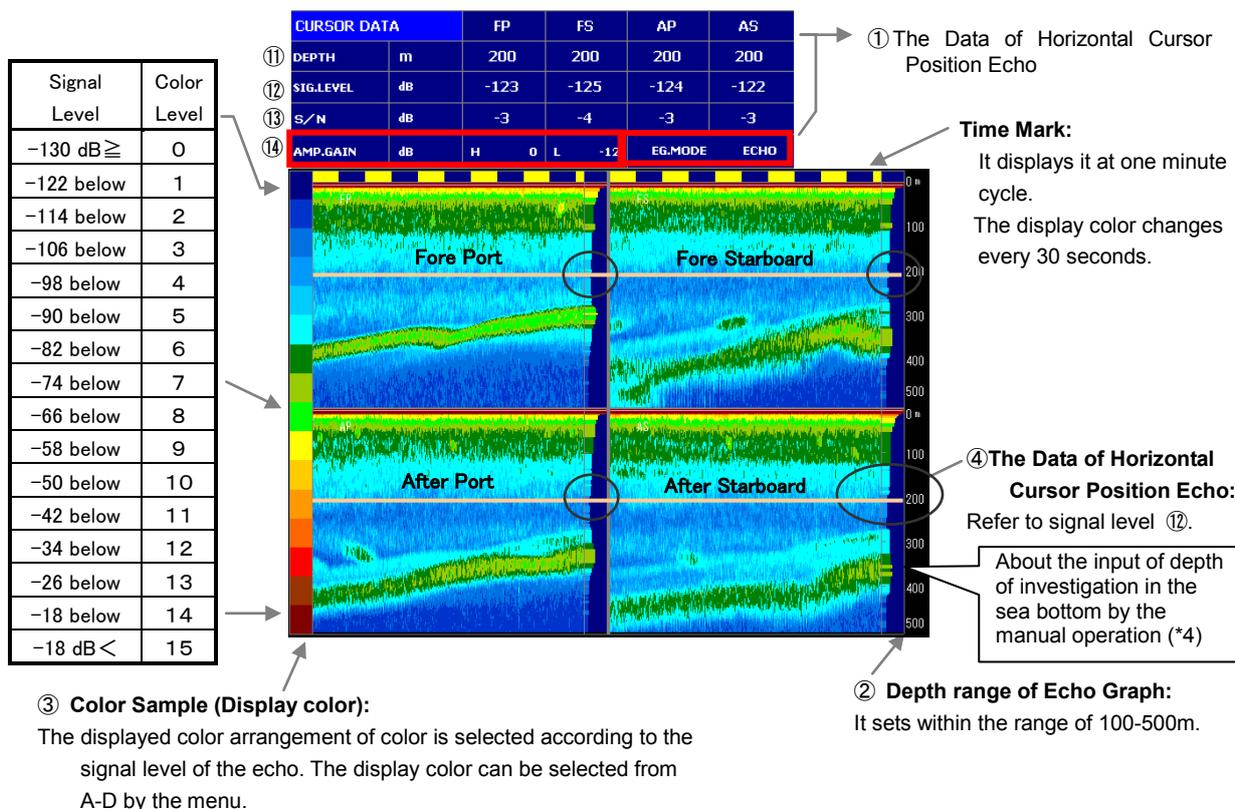

Fig. 4.2.2 Current 3 Screen Echo Graph
*6 Refer to Fig. 4.2.2 ⑪-⑭.
*7 Refer to Fig. 4.2.2 ⑬ S/N
Function The depth range in the graph is set within the range of 100-500m. Refer to the example ② in Fig.4.2.2
*1 Display mode: Refer to Fig. 4.2.2-⑮
*2 Color sample and signal level: Refer to Fig. 4.2.2 ③
*3 Cursor position echo table: Refer to Fig. 4.2.2 ⑪~⑭
Cursor position echo table: Refer to Fig. 4.2.2-①